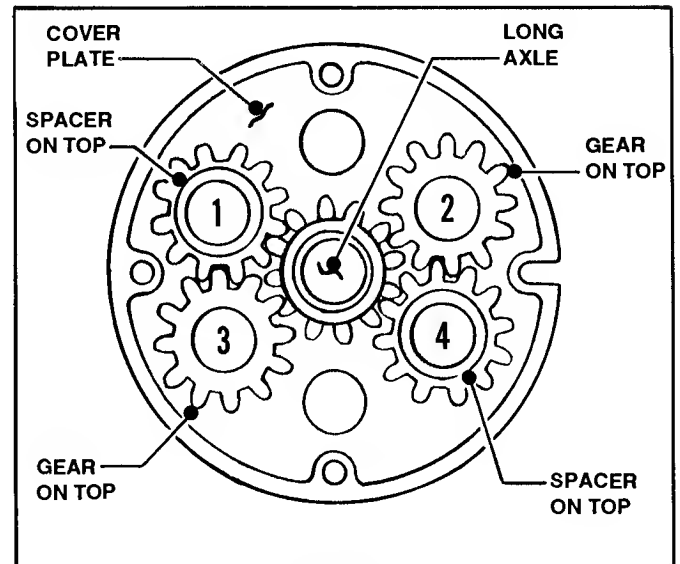

FIGURE 5.9
7. On shaft indicated as number 1 in Figure 5.9, install gear first, then spacer.
8. On adjacent shaft (number 2), install spacer first, then gear. When properly positioned, gear-spacer arrangement will be opposite side-to-side and the same diagonally as shown in Figure 5.9.